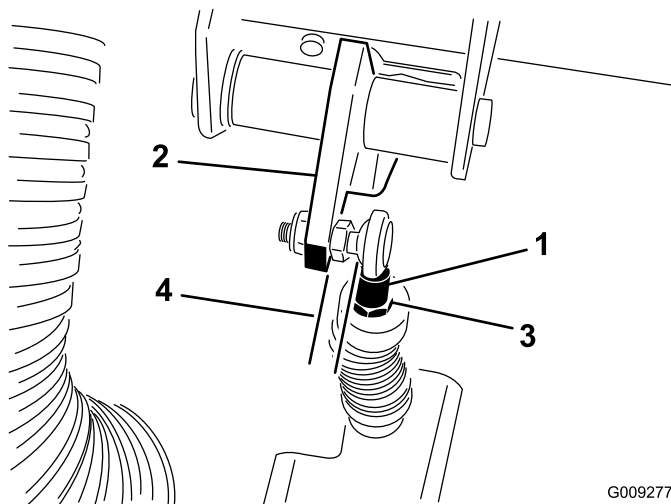

Figure 67
**Important:** Ensure that the rod end is positioned squarely on the ball, not twisted, and remains parallel to the clutch pedal after the jam nut is tightened (Figure 67).